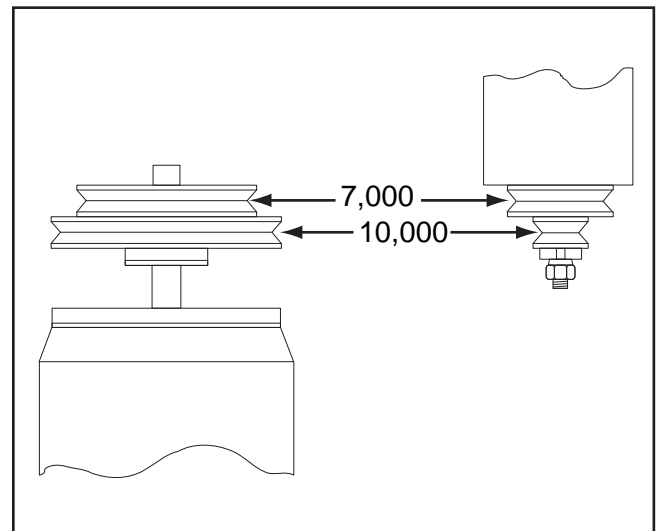

Figure 14. Speed change belt positions.
3. Move the V-belt to a sheave on the motor and spindle pulleys to select the desired speed (**See Figure 14.**)